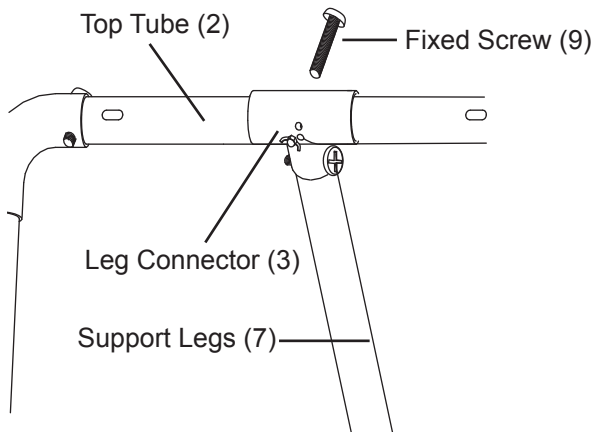

Figure 3
3. Use Fixed Screws and Nuts to fasten the Top Tubes to the Leg Connectors (3) and then the Support Legs (7) to Leg Connectors. See Figure 3, following.